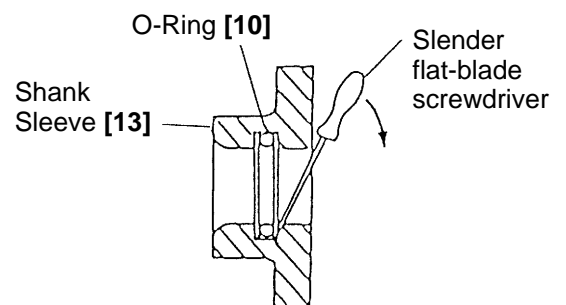

Fig. 15
- Removal of O-Ring (E) [10]
As O-Ring (E) [10] is installed in the inner portion of the Shank Sleeve [13], it may be difficult to remove. As illustrated in Fig. 15, pry O-Ring (E) upward gently with a slender flat-blade screwdriver, being very careful not to damage the surface of the O-ring.